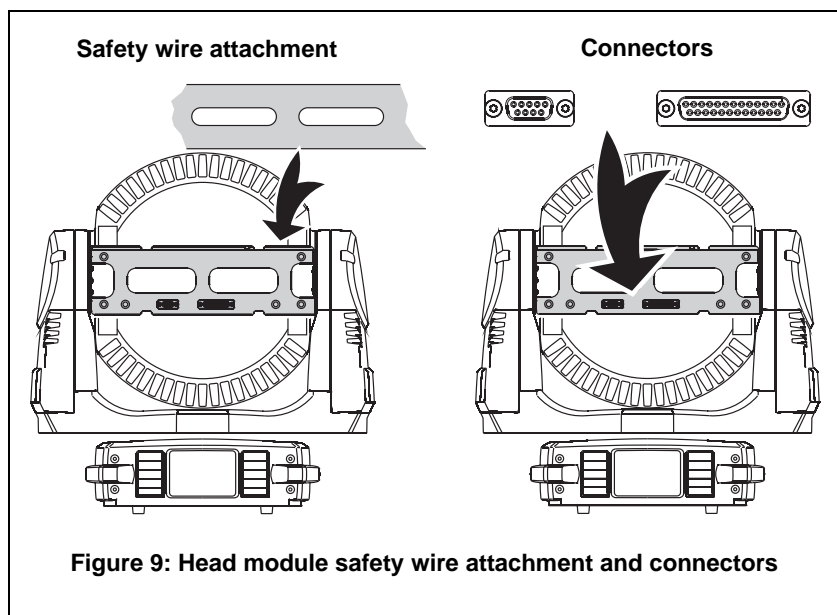

Figure 9: Head module safety wire attachment and connectors
3. Head module installation procedure is the reverse of the removal procedure. See Figure 9. When installing a module, clip the safety wire into the attachment point in the yoke frame, and make sure that the connectors in the module engage in the connectors in the yoke frame while you press the module into position on the head.